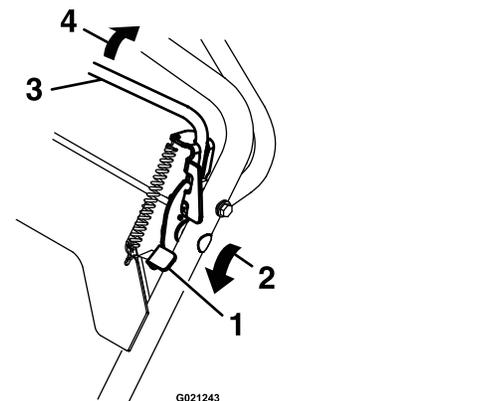

Figure 6
2. Push and hold the blade-control lock forward to release the blade-control bail (Figure 6).